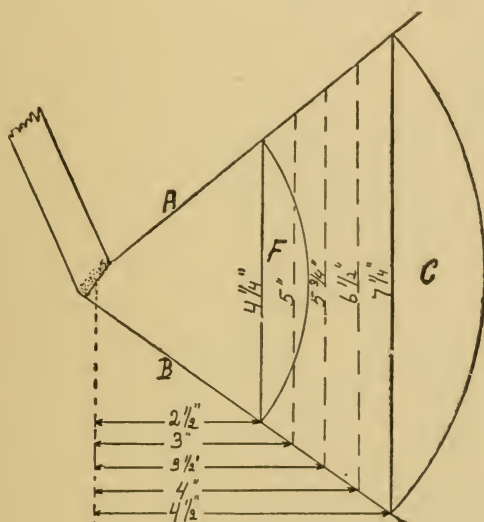

FIGURE 42
(118) Examining Fig. 42, the reason for minimum distance becomes self-evident. We see that it would require a collector 7.25 inches in diameter located 4.5 inches from the light source to collect the same amount of light available to collector 4.25 inches in diameter only 2.5 inches from the light source.
(124) Pitting is caused by particles of incandescent matter from the light source striking the lens and ruining the polish at point of impact. As a consequence the light that strikes a pitted spot is diffused and very largely wasted. Pitting may be decreased or stopped altogether by lengthening the distance from the light source to the lens, but that entails heavy loss of light (see Fig. 42) and the "gain" is likely to prove a loss. With increased distance the lens will not have to be